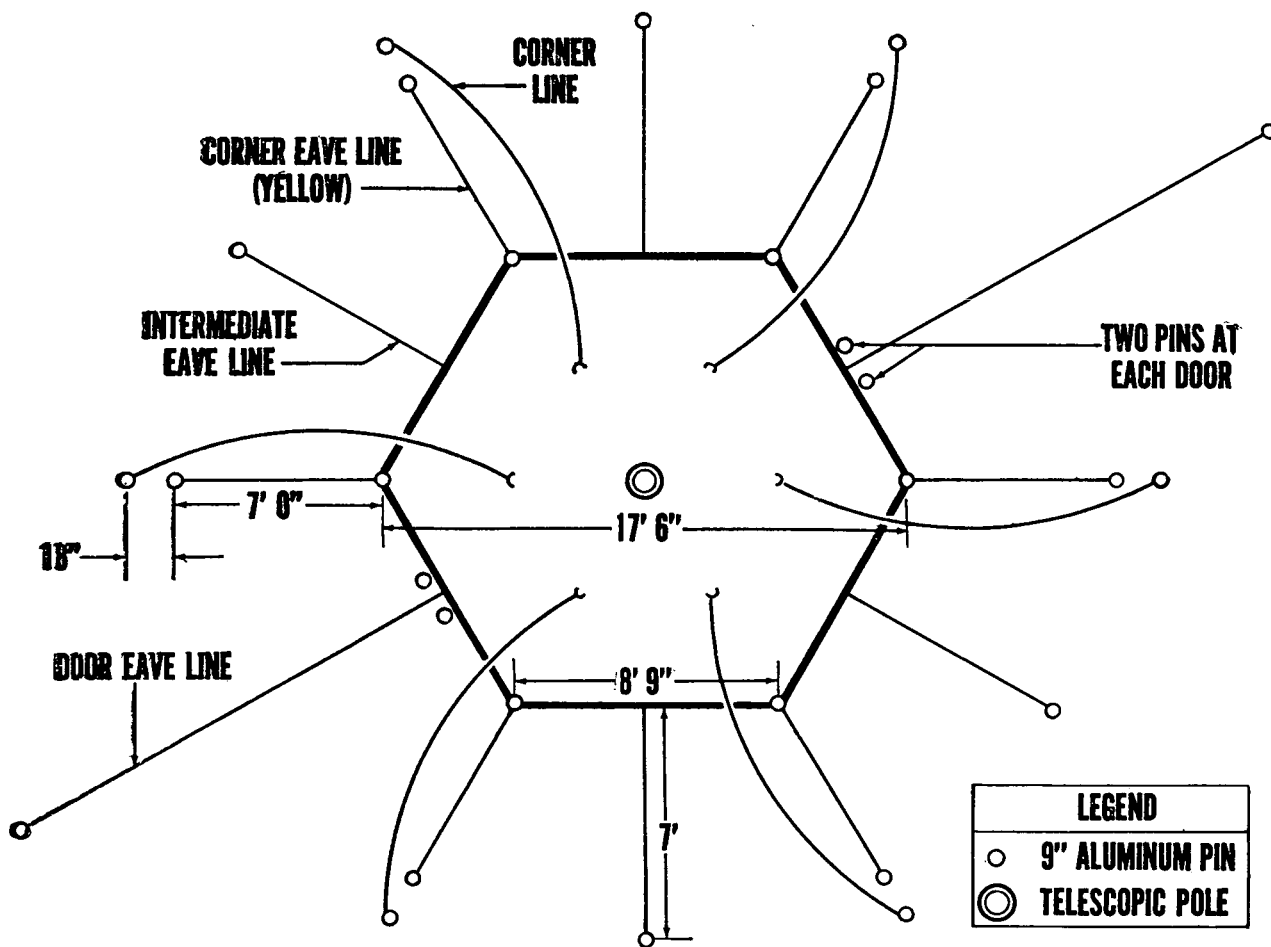

Figure 2. Ground plan of tent, arctic, 10-man.
c. *Ground Plan.* Before pitching the tent, study the ground plan carefully (fig 2).